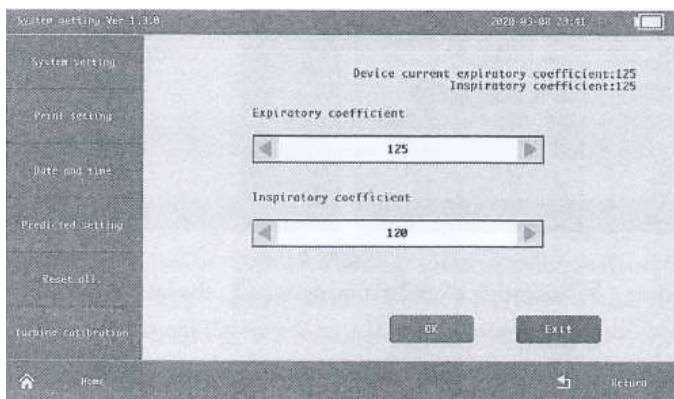

Figure 6-20
- After selecting **【Coefficient calibration】**, the *interface* to change the *inspiration coefficient* and *expiration coefficient* will appear, as shown in Figure 6-20.